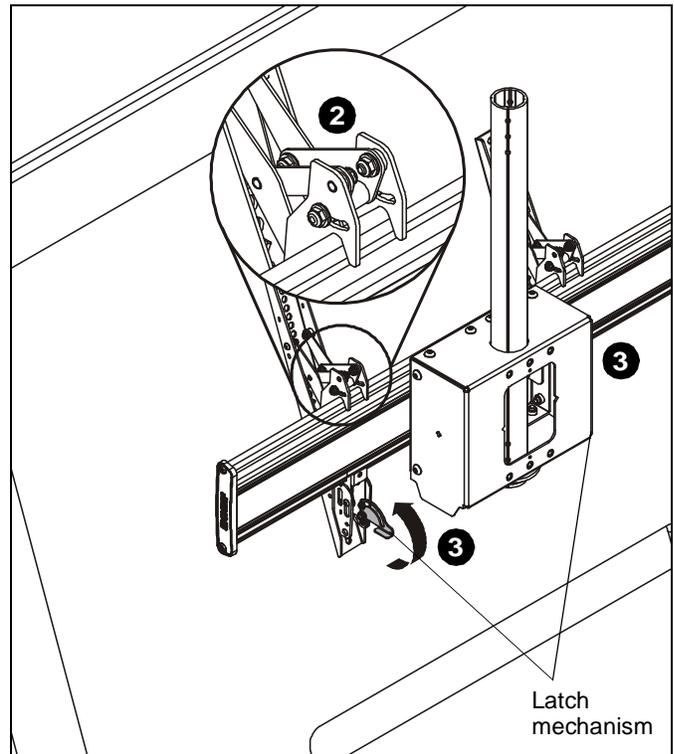

Figure 10
- While supporting both sides of display, lower display onto ceiling mount, hooking top of interface brackets onto front of ceiling mount. (See Figure 10)
- Raise the latch mechanism on both interface brackets to lock bracket in place. (See Figure 10)